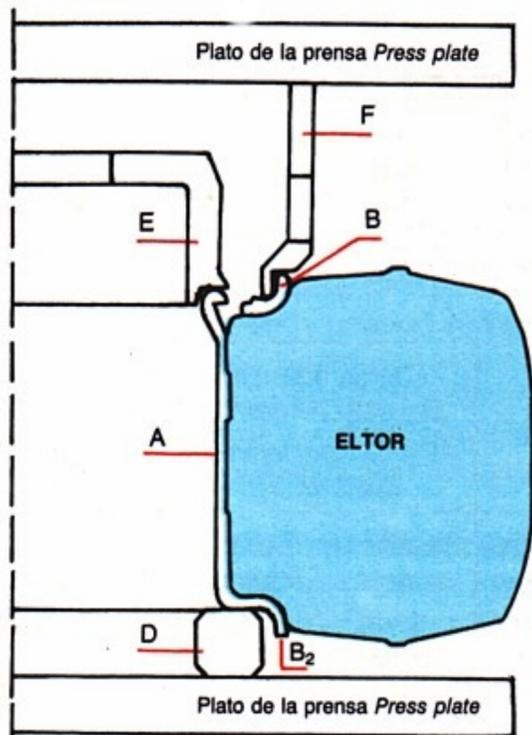

Fig.1
5. Cerrar la prensa lentamente cuidando que en el punto B2 no se desplace la rueda **DUNLOP** (Fig.1).
5. Close the press slowly taking care that the **DUNLOP** tyre is not displaced from point B2 (Fig. 1).